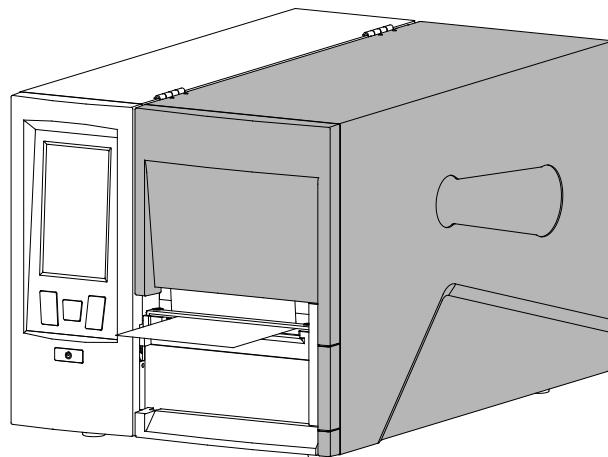

Figure 2-22 Close the Flip-up Cover
9. Close the Flip-up Cover. Enter the LCD touchscreen settings menu, and set the printed label handling mode to Tear-off Mode (please refer to 3.2.1.7 Printed Label Handling). As shown in Figure 2-22.